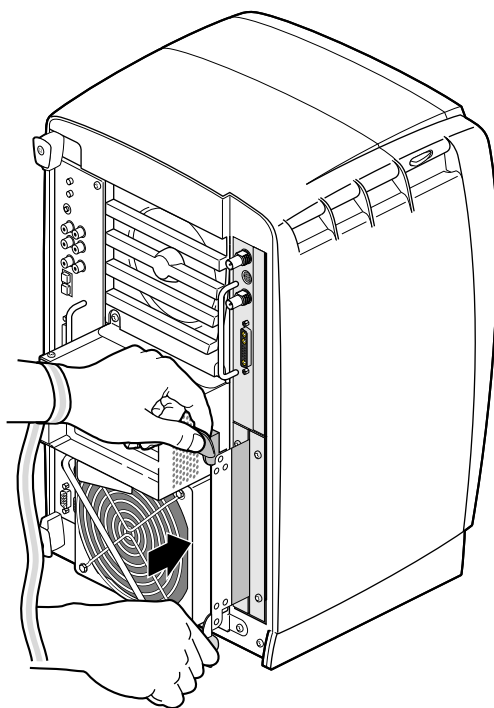

Figure 5-7 Latching the XIO Tri-Module
4. Use the plastic knobs to lock the XIO Tri-Module into position, as shown in Figure 5-7.